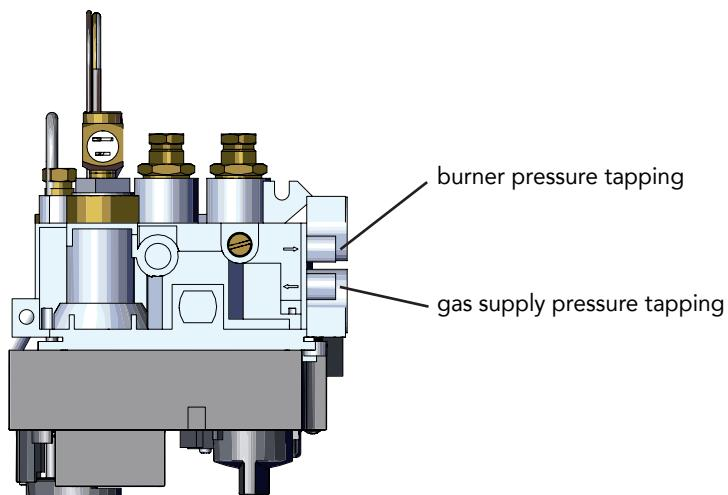

Fig 21
2. Release the screw on the Inlet Pressure test point on the gas valve and connect a manometer (Fig 21 p27).
7. Release the screw on the Burner Pressure test point on the gas valve and connect a manometer (Fig 21 p27).
It is essential to measure the gas supply pressure at the arrow pointing towards the inside of the gas block (Fig 21).